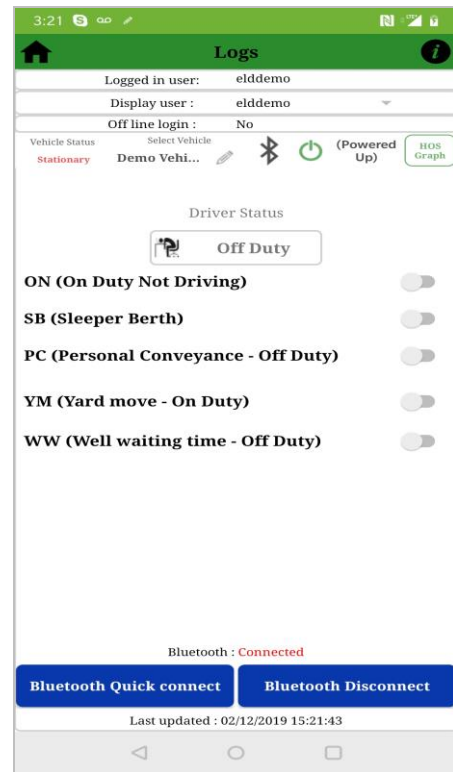

Figure 8.4 – Bluetooth connected & driver status offduty
- Bluetooth Quick connection option is available in the Logs screen (figure 8.4).